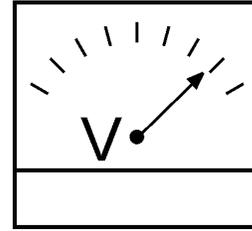

Figure 46. Voltmeter
8. The generator's AC-voltmeter (Figure 46) will display the generator's output in **VOLTS**.